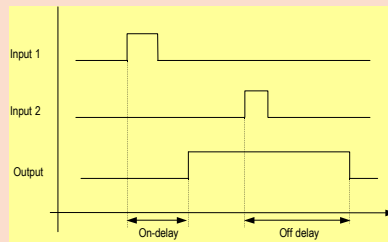

Fig. 3: Example for one effect of the pulse shaper stage
- in and output coupling: activation of a selectable visual display or an output relay through an input signal which can be modified optionally in time characteristics (also latching see Fig. 3), or can be extracted from the logic operation of several input signals.